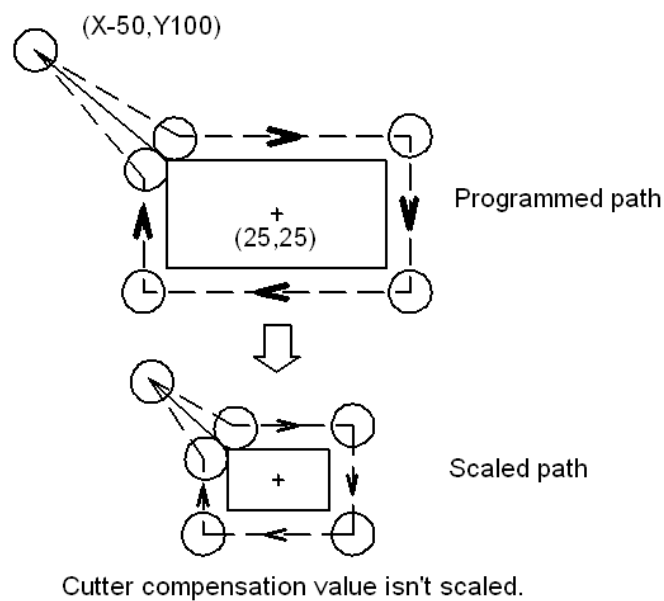

Fig. 3-2-37 Scaling during cutter compensation
5. The scaling is invalid for the cutter compensation value, the tool length compensation value and the tool offset value, which is shown as Fig. 3-2-37.